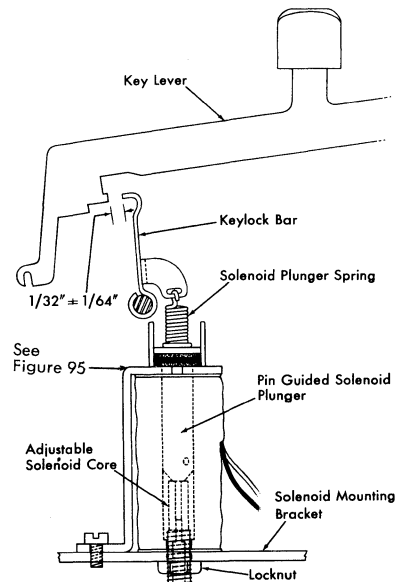

Figure 79. Keylock Solenoid Adjustment
9. Adjust the keylock solenoid plunger by turning the spring so there is a clearance of $\frac{1}{32}$ " \pm $\frac{1}{64}$ " between the keylock bar and the keylevers when the solenoid plunger is bottomed on the residual washer (Figure 79).